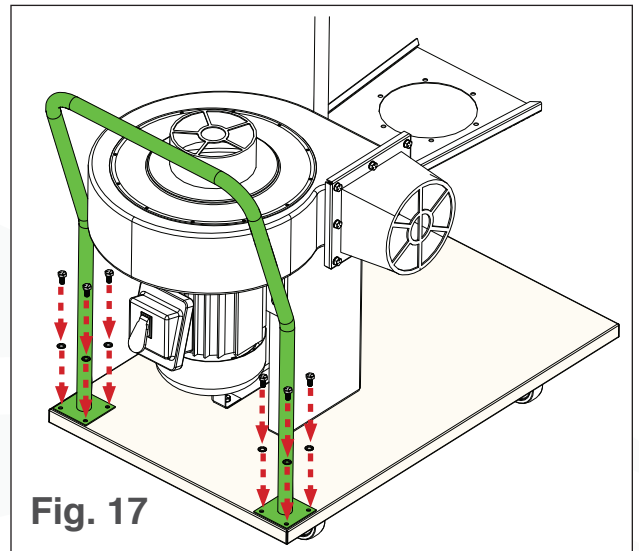

Fig. 17
3. Secure the cart handle to the base plate with all eight bolts and star lock washers (see Fig. 17).